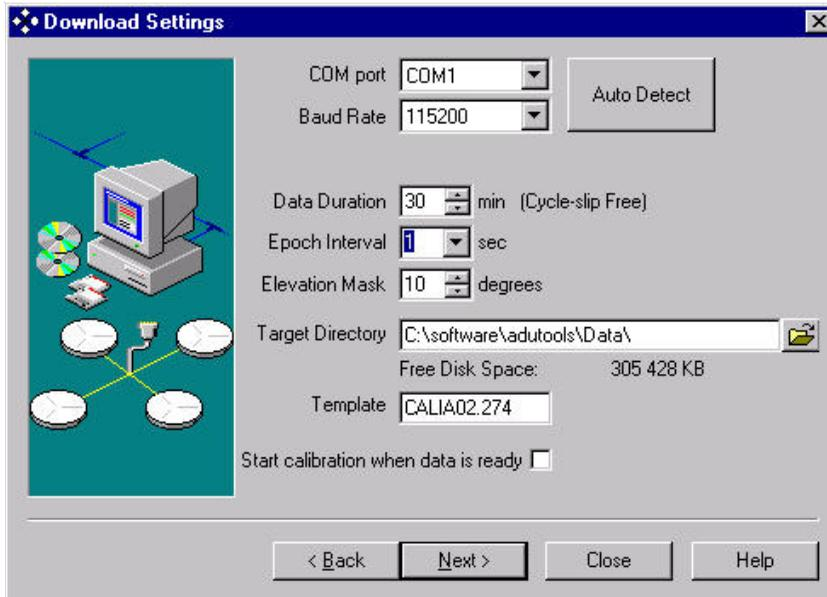

Figure 4.2 Download Settings Dialog
| Download Settings Figure 4.2 | Appears after the Startup dialog, if you are going to collect data | 33 |
5. Click **Next**. The **Download Settings** dialog box appears, Figure 4.2.